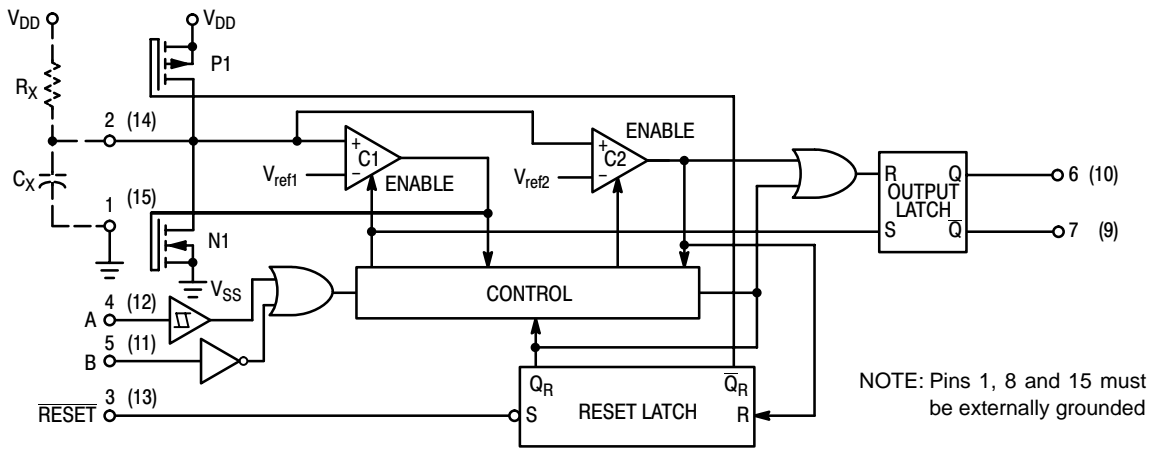

Figure 1. Logic Diagram
The block diagram of the MC14538B is shown in Figure 1, with circuit operation following.
As shown in Figure 1 and 10, before an input trigger occurs, the monostable is in the quiescent state with the Q output low, and the timing capacitor  $C_X$  completely charged to  $V_{DD}$ . When the trigger input A goes from  $V_{SS}$  to  $V_{DD}$  (while inputs B and  $\overline{\text{Reset}}$  are held to  $V_{DD}$ ) a valid trigger is recognized, which turns on comparator C1 and N-channel transistor N1 ①. At the same time the output latch is set. With transistor N1 on, the capacitor  $C_X$  rapidly discharges toward  $V_{SS}$  until  $V_{\text{ref}1}$  is reached. At this point the output of comparator C1 changes state and transistor N1 turns off. Comparator C1 then turns off while at the same time comparator C2 turns on. With transistor N1 off, the capacitor  $C_X$  begins to charge through the timing resistor,  $R_X$ , toward  $V_{DD}$ . When the voltage across  $C_X$  equals  $V_{\text{ref}2}$ , comparator C2 changes state, causing the output latch to reset (Q goes low) while at the same time disabling comparator C2 ②. This ends at the timing cycle with the monostable in the quiescent state, waiting for the next trigger.